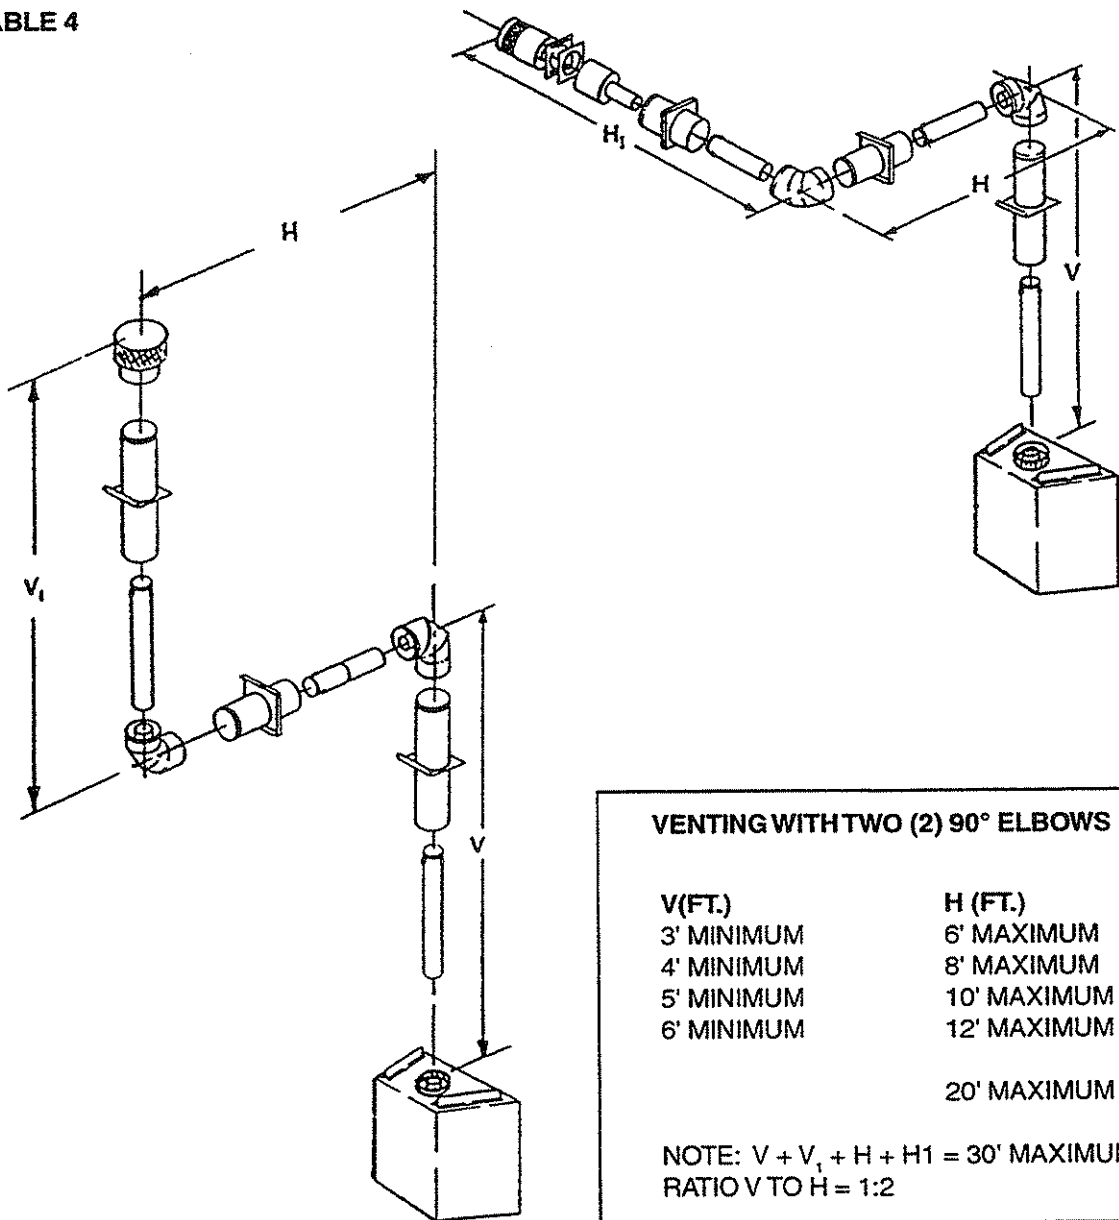

**FIGURE 6**
Figure 6 and Table 3 show examples of possible installations using one (1) 90-degree elbow. Dimension V is listed as **MINIMUM** vertical dimensions and dimension H is listed as corresponding **MAXIMUM** horizontal dimensions. Vertical dimensions are based on top of the unit to centerline of pipe. Horizontal dimensions are based on centerline of pipe to end of termination. If one 90-degree elbow is used in the vent system, a horizontal termination will result.